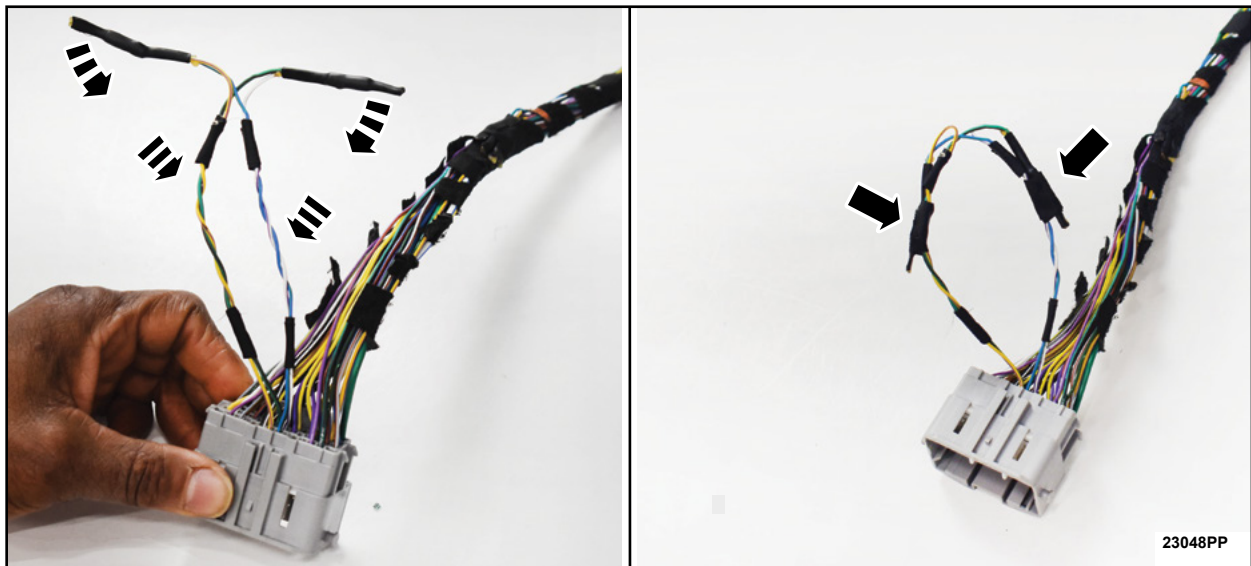

FIGURE 18
18. Using electrical tape, secure both sets of crimped wires to the circuits just created, as shown in Figure 18.